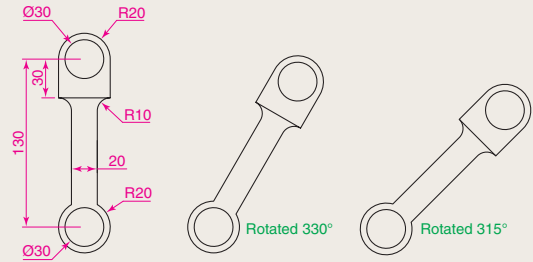

Fig. 5.53 Exercise 7
- Construct the drawing Fig. 5.53 and make two copies using **Copy**. With **Rotate** rotate each of the copies to the angles as shown.